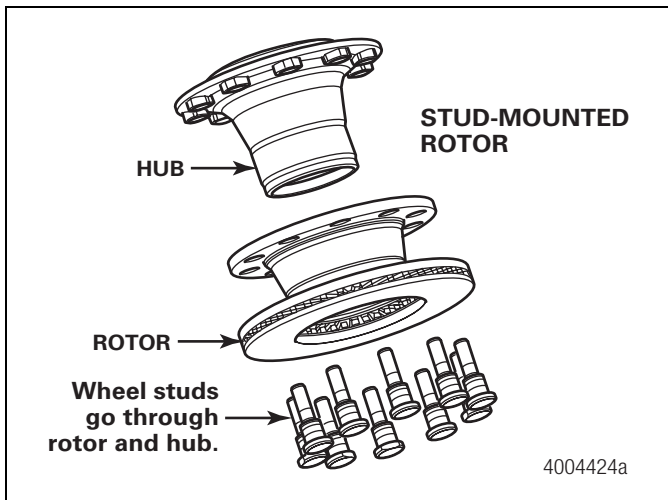

Figure 15
- For stud-mounted rotors:** Use a brass or synthetic mallet to remove the hub-to-rotor studs. Figure 15. Be careful not to damage the studs during this process.
- For stud-mounted rotors:** Press or pull the wheel studs through the rotor into the hub. Figure 15.